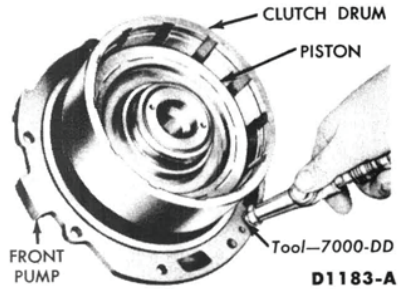

Fig. 12 —Clutch Piston Removal
- ⊗ Position the clutch drum on the completely assembled stator support shaft and front pump housing. (Fig. 12) Apply air pressure to force the piston out of the clutch drum at the point shown.